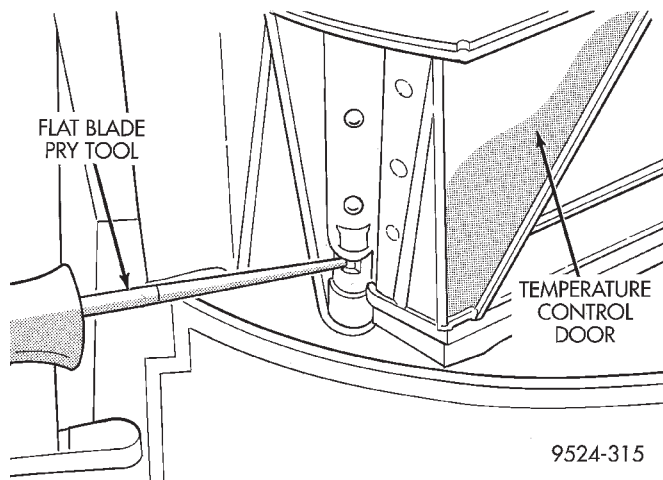
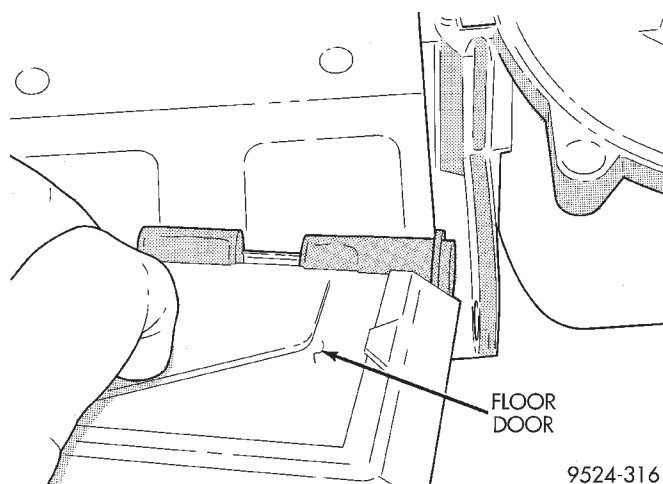

**Fig. 108 Temperature Control Door Removal**
**Fig. 109 Floor Door Removal**
(38) Depress retaining clip at temperature control door, remove temperature control door (Fig. 108).
(39) Unsnap panel door from rear half of housing. Remove door from housing.
(40) Unsnap floor door from front half of housing. Remove door from housing (Fig. 109).